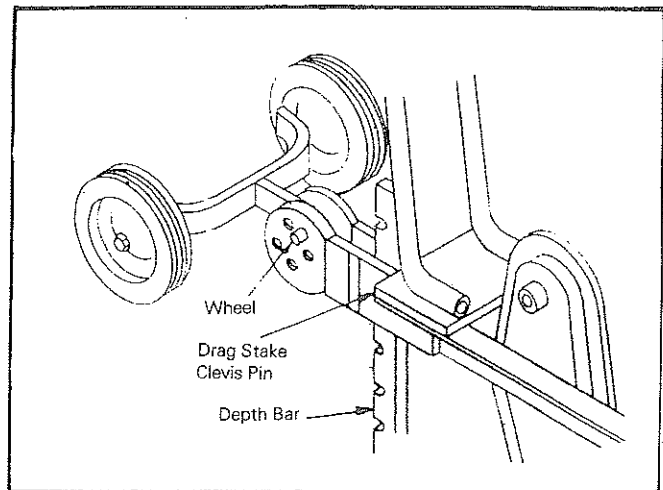

Figure 9
1. When the ground is hard (especially during spring and fall plowing), place wheels in up position by removing the pin clip from the wheel clevis pin, removing the clevis pin and repositioning wheel frame bar. Replace the clevis pin and the pin clip (See Fig. 9). For weeding or cultivating, wheels may be left down if you prefer.
## WHEEL HEIGHT (See Fig. 9 & 10)